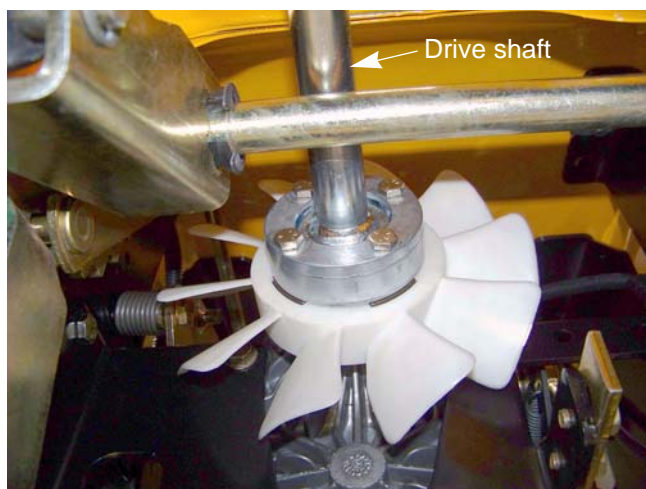

Figure 5.18
9. Remove the four bolts that attach the drive shaft to the hydro pump using a 7/16" wrench. See Figure 5.18.